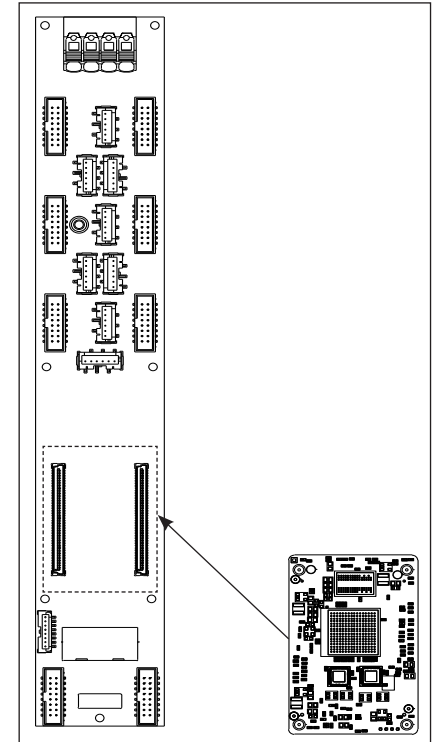

Figure 12: Install Receiver Card
2. Press the receiver card snugly into place in the pin slots on the hub board. Ensure the receiver card is oriented with the larger chip at the top and the two smaller chips at the bottom. Refer to **Figure 12**.